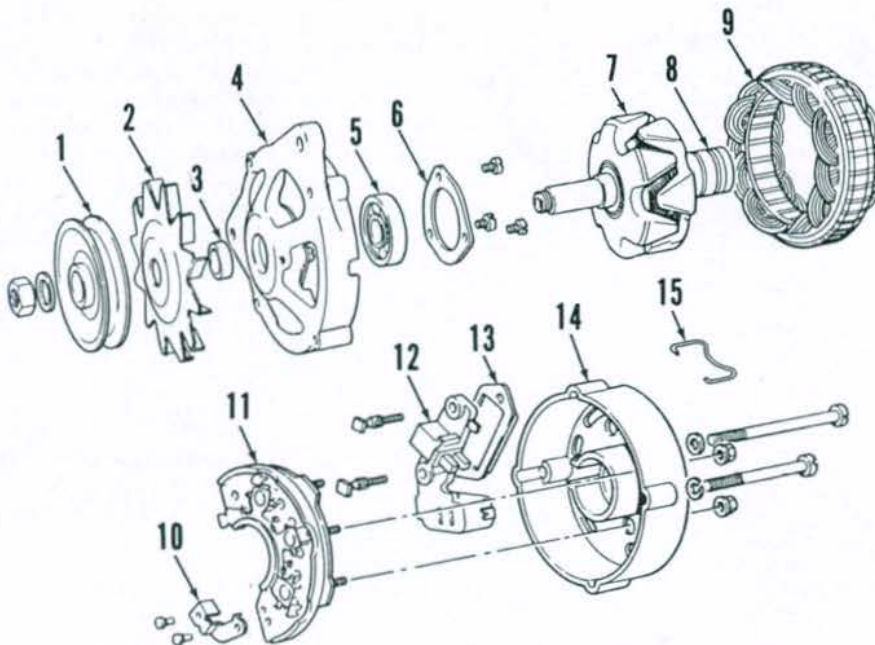

Fig. 108—Exploded view of Perkins alternator used on some MF240 and MF250 tractors.
106. OVERHAUL. Prior to disassembly, scribe matching marks across end frame (4--Fig. 108) and rear housing (14) to ensure correct alignment for reassembly. Remove four through-bolts, then separate end frame with rotor from rear housing and stator. Hold rotor in a vise, then remove pulley nut, pulley (1), fan (2) and spacer (3) from rotor shaft. Separate rotor from end frame. Remove front bearing (5) from end frame and rear bearing (8) from rotor if necessary.